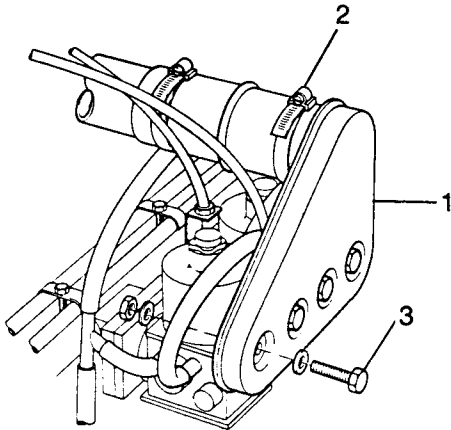
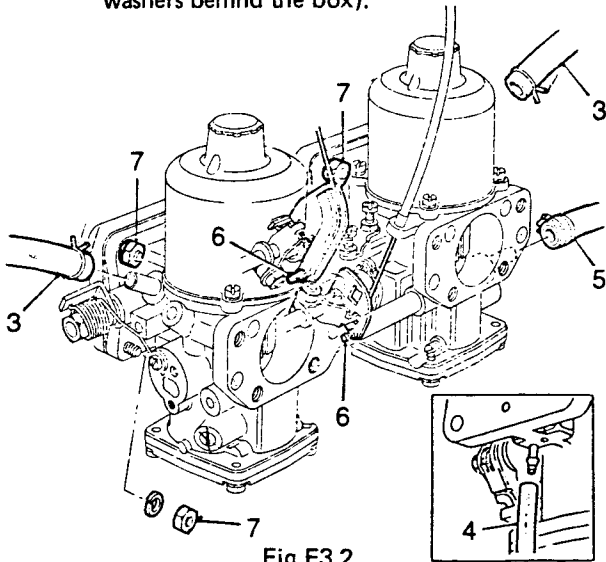

Fig F3.1
Fig F3.2
(2) Refer to Fig F3.1. Remove the air intake box (1) by disconnecting the air inlet hose (2) and removing the four bolts (3) holding the box to the carburettors. (The bolts have loose nuts and washers behind the box).
(3) Refer to Fig F3.2. Disconnect the engine purge hoses (3) from the carburettors.
(4) Disconnect the ignition vacuum advance pipe (4) from the rear carburettor.
(5) Disconnect the fuel feed pipe (5) to the rear carburettor.
(6) Release the throttle and choke cables (6).
(7) Remove the eight nuts and spring washers (7) to release the carburettors.
(8) Remove the carburettors together with the throttle cable abutment bracket distance plate for the front carburettor, distance pieces and gaskets, keeping the carburettors together so as not to disturb the interconnecting links.
(5) Fig F3.2 still applies. Using new gaskets replace the carburetors and fit the eight nuts and spring washers (7) to the studs.
(6) Refit the throttle and choke cables (6).
(7) Reconnect the fuel feed pipe to the rear carburettor (5).
(8) Reconnect the ignition vacuum advance pipe (4) and the engine purge hoses (3).
(9) Replace the air intake box and air inlet hose (Fig F3.1).
(10) Reconnect the battery.